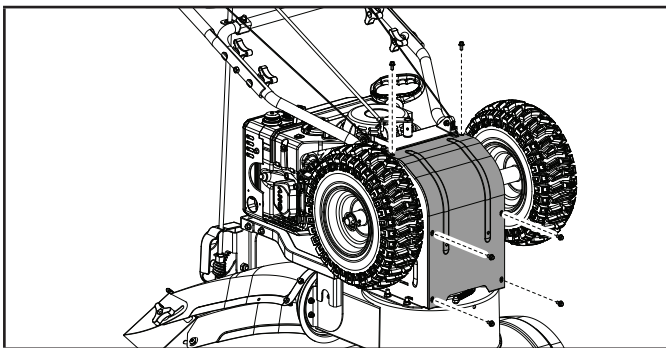

Figure 25
5. Remove the base frame cover (1) from the underside of the snowblower by removing the six M6 × 16 screws which secure it (Fig 25).